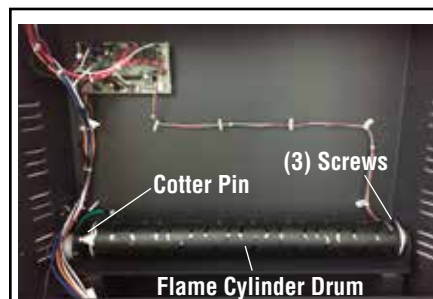
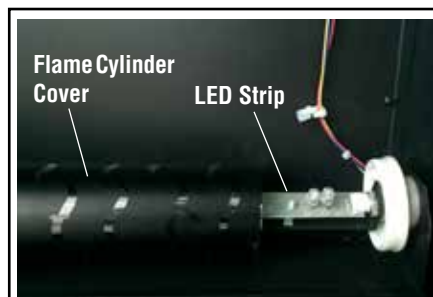

Figure 15
Figure 16
- iii. Locate flame cylinder drum (see **Figure 15**). Locate the cotter pin on left side of flame cylinder and remove it. Remove outer plastic sleeve of drum by removing the (3) screws on the right side of the sleeve. Disconnect the left side of the flame cylinder drum from the motor, and slide the outer sleeve off. you will have access to the LED strip (see **Figure 16**). **NOTE: do not exert excessive pressure on the drum cylinder as this may cause damage.**